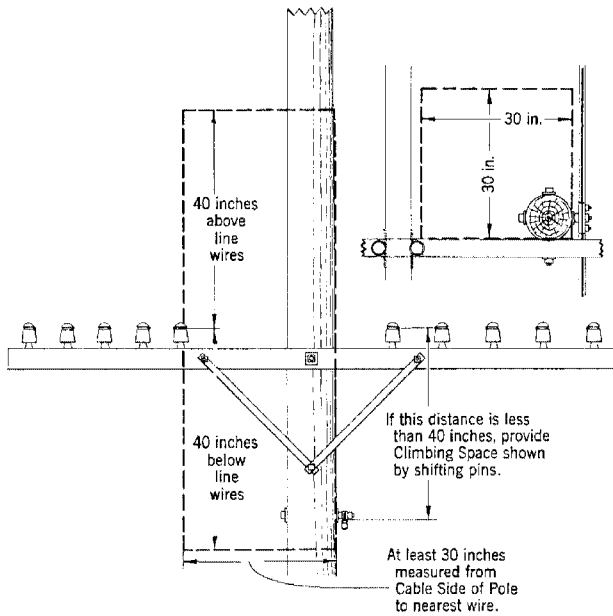

Fig. 4
3.03 Full climbing space must be provided *past* longitudinal runs of cable, multiple line wire, drop wire, etc. Cable or multiple line wire, for example, may abut one or two *sides* of the 30-inch square, but may not run through the climbing space. Hence when telephone cable is *less* than 40 inches above or below telephone open wire on a joint pole, it will usually be necessary to shift pins, etc., to provide climbing space. See Fig. 4.